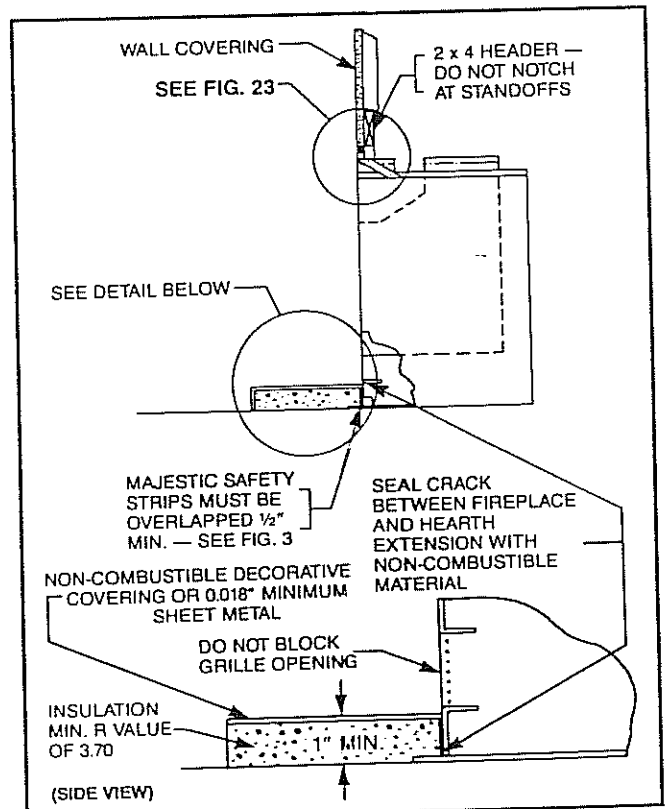

Fig. 27. Sealing detail.
A hearth extension is required to protect combustible floor construction in front of the fireplace. (See Figs. 27 and 28.)
The hearth extension described in Fig. 27 must be constructed of a rigid insulation with a minimum (total) R_T value of 3.70. (See Table 4 for examples.) The overall height (above combustible floor), depth and width must be as indicated, with it centered to the fireplace opening.
The top of the insulation must be covered with a non-combustible decorative covering or a piece of .018" minimum sheet metal, to protect the hearth extension material. (See Fig. 27.)
Secure the hearth extension to the floor to prevent shifting, using trim molding or other similar means at the three (3) outer edges. Seal the crack between the fireplace hearth and the hearth extension with a non-combustible material. (See Fig. 27.)
WARNING: HEARTH EXTENSION MUST BE INSTALLED IN ACCORDANCE WITH FIGS. 27 AND 28 AND MUST NOT COVER THE GRILLE OPENING OF THE FIREPLACE.